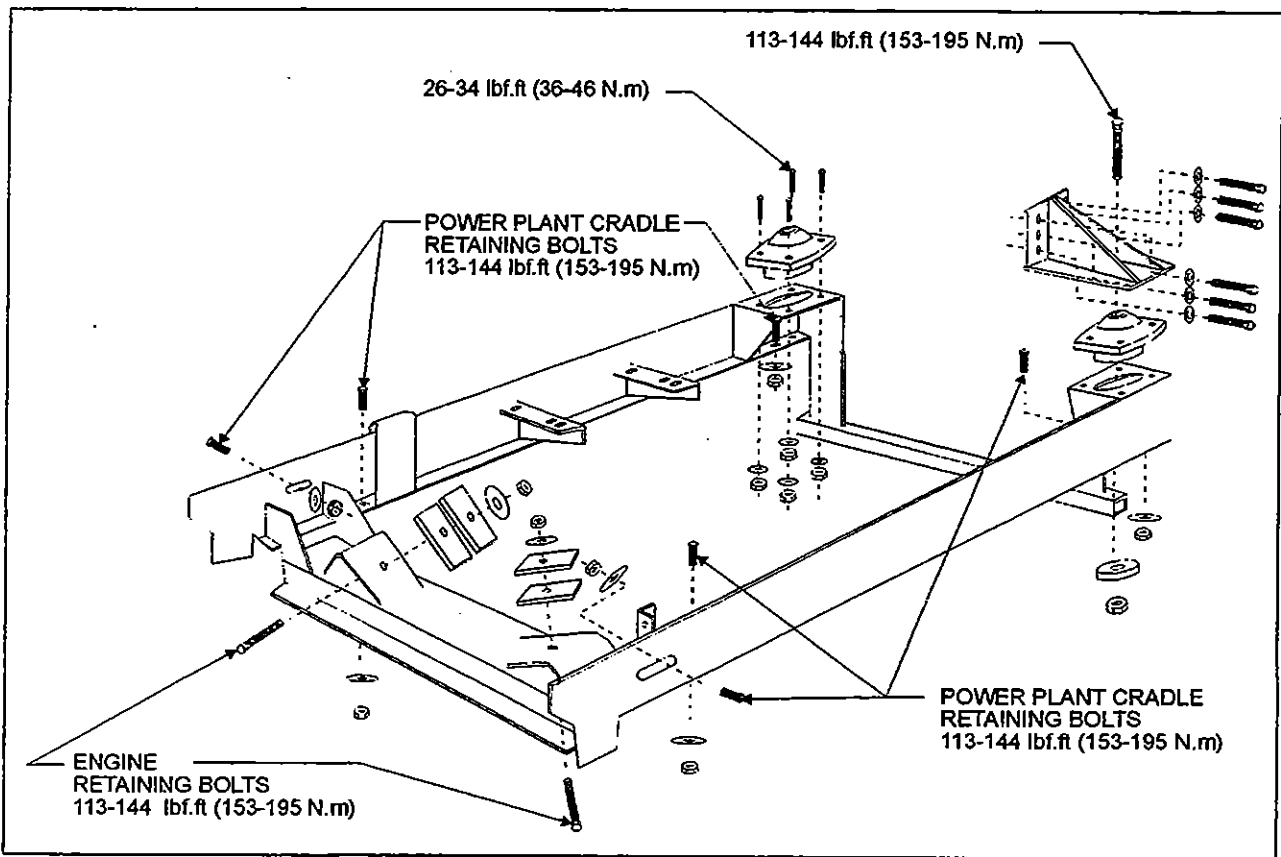

Figure 18: Power Plant Cradle Installation
39. Remove the six retaining bolts, washers and nuts securing the power plant cradle to the vehicle rear subframe (Fig. 18).
Two rubber mounts are used at the front of the engine while other two are mounted on each side of the flywheel housing, on vehicles equipped with automatic and manual transmissions (Fig.18).